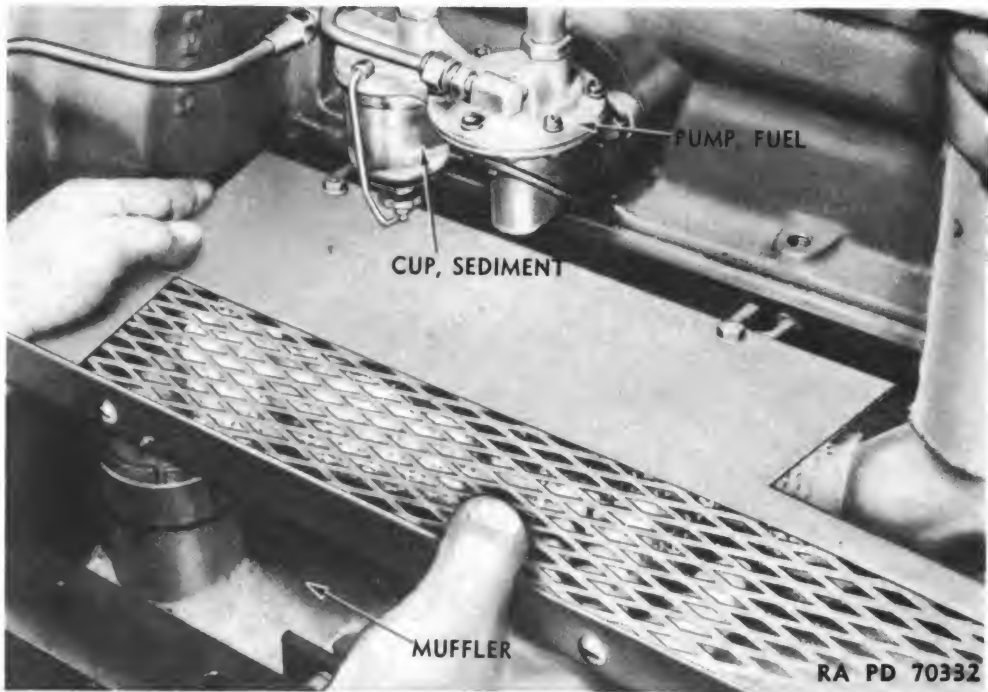

Figure 18 — Exhaust Guard Tray Removal
- (7) Loosen the four cap screws attaching expanded metal exhaust guard tray to tabs, and remove tray (fig. 18).
- (8) Disconnect flare tube fitting in fuel pump inlet line. Remove line.
- (9) Loosen manifold flange retaining bolt. Remove exhaust pipe from manifold flanges.